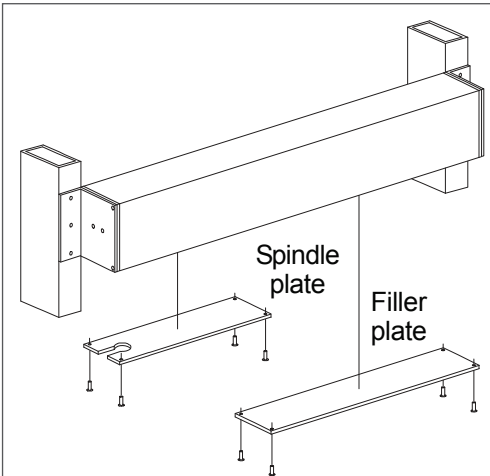

Figure 15-1
1. Install spindle plate and filler plate (Figure 15-1). Spindle platecutout fits over operator spindle.